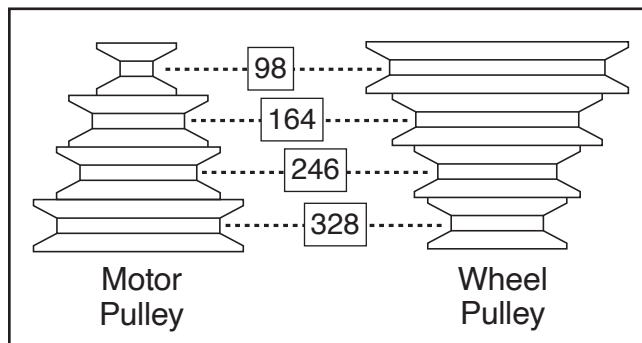

Figure 62. V-belt placement for FPM selection.
6. Position V-belt on pulleys for desired FPM (see **Figure 62**).